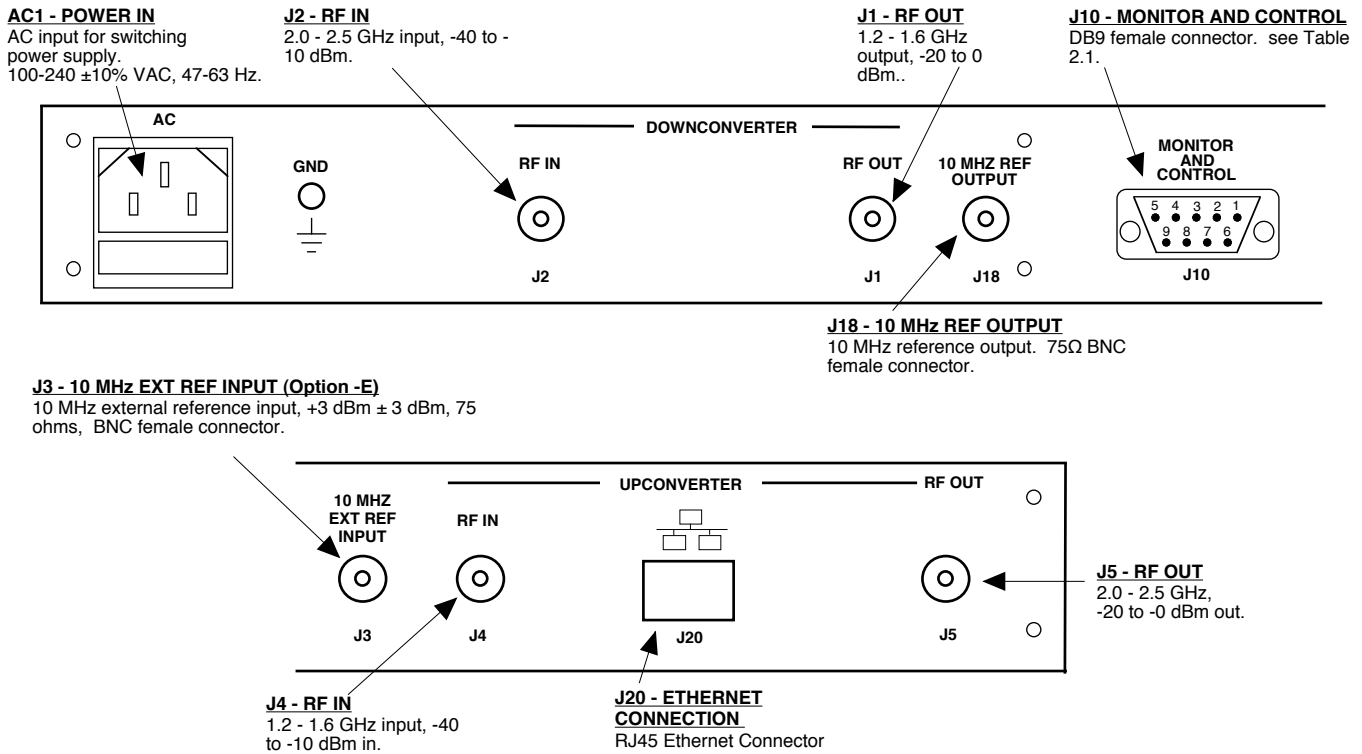

Figure 2.1 Model 3117-2525-1216# Rear Panel I/O's
- 1.) Connect a 1200 to 1600 MHz -40 dBm to -10 dBm signal to IF In, J4 (Figure 2.1).